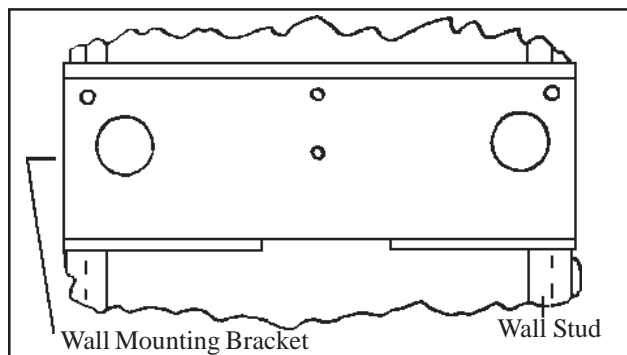

FIGURE 4
**STEP 3.** Attach wall mounting bracket to wall studs with top at desired height using (2) wood screws provided. Make sure top of bracket is level. See Figure 4.